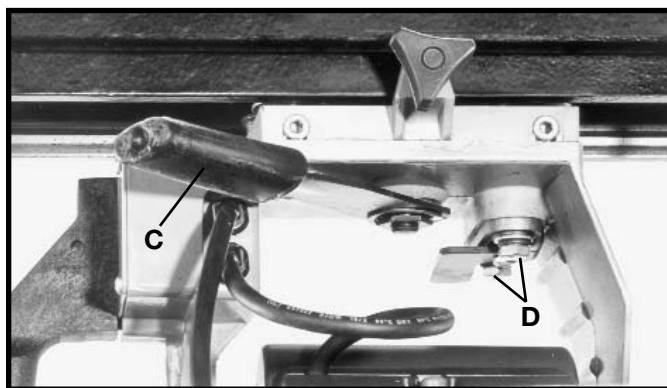

Fig. 39
5. If the blade is not parallel to the square, an adjustment is necessary. Release the yoke clamp handle (C) Fig. 39, and slightly loosen two hex head screws (D). Swivel the yoke until the blade is parallel with the square and tighten yoke clamp handle (C). Then tighten two hex screws (D) Fig. 39.